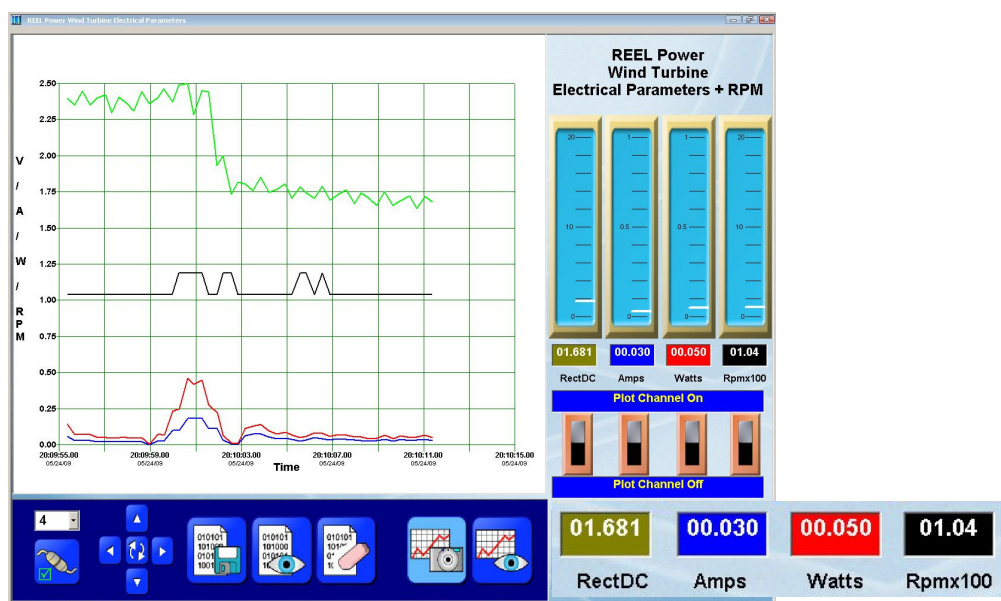

Figure 3 – Plot with 50 Ohm Load
- Next, adjust the resistor for less resistance – about half of the entire rotation of the potentiometer. Now capture another plot of voltage, current and power as in Figure 3 below. Notice the increase in current but the drop in power and RPM.